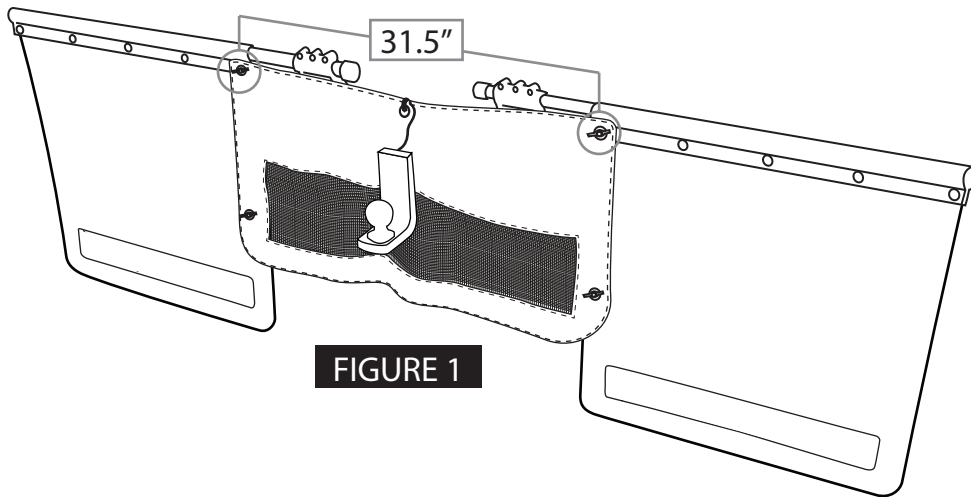

FIGURE 1
1. Set width of rubber flaps to approximately 31.5" between the first Flap Clamp Bolts on each side (see Figure 1)